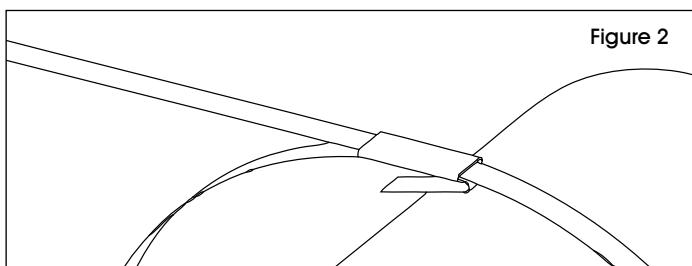

Figure 2
- Slide end of strap through bottom of seal and fold over to form a "hook". (See Figure 2)